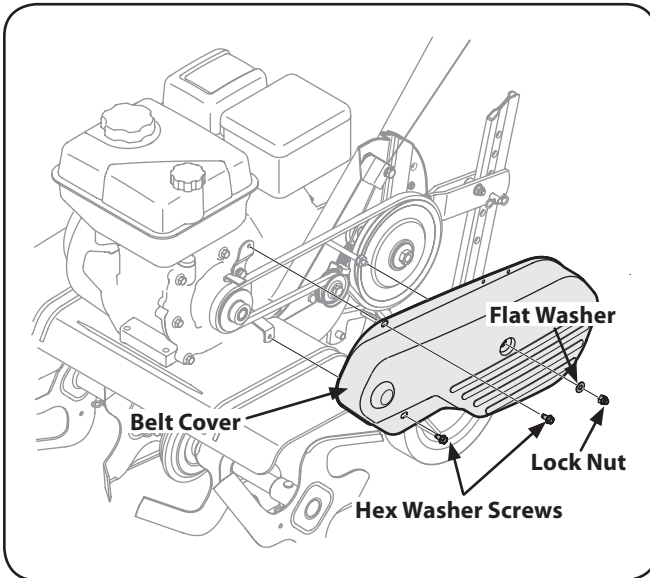

Figure 7-1
2. Remove the belt cover from the left side of the tiller by removing the two hex washer screws and the lock nut and washer. See Figure 7-1.